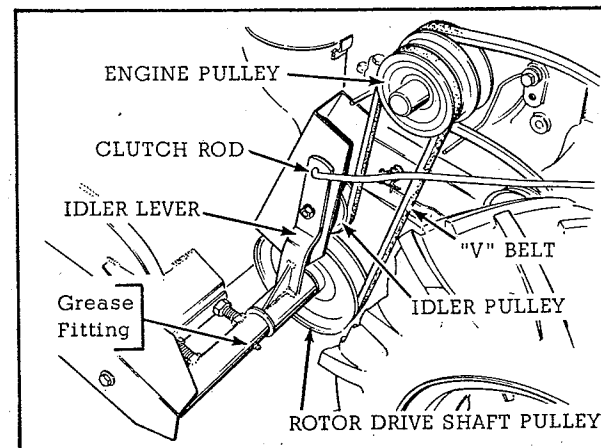

Fig. 9
4. Place the "V" belt in position on the engine drive shaft pulley, and on the rotor drive shaft pulley. **Note:** "V" belt runs under the idler pulley. See figure 9. Insert the offset end of the clutch rod into the hole on the idler lever and fasten in place with a hair pin cotter as shown in figure 9.
The snow plow has 1 grease fitting which requires occasional lubrication with general purpose automotive grease. The location of this fitting is shown in figure 9.